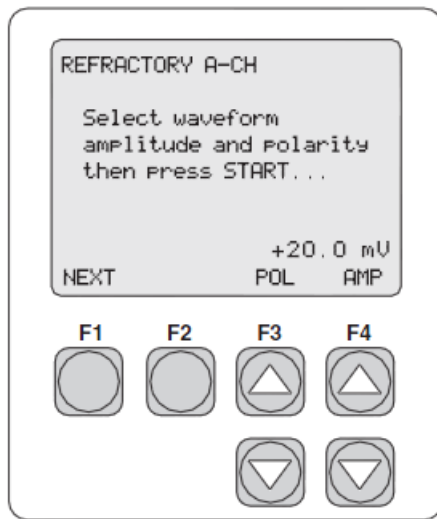

Fig 13
- Press “F1” again for (Next). Fig 13
- Press “F1” (START). Wait for results... Fig. 13